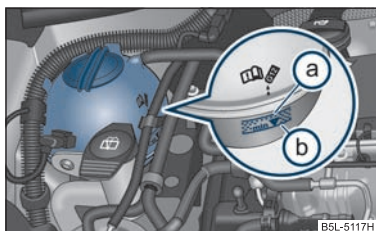

Fig. 165 Engine compartment: Coolant expansion bottle
- Check the level of coolant in the coolant expansion bottle ⇒ fig. 165. When the engine is cold, the coolant level must lie between the (a) and (b) markings. When the engine is warm, the level may also lie slightly above the hatched part.
- Place a cloth over the cap of the coolant expansion reservoir ⇒ fig. 165 and unscrew the cap **carefully** by turning it to the left ⇒ .